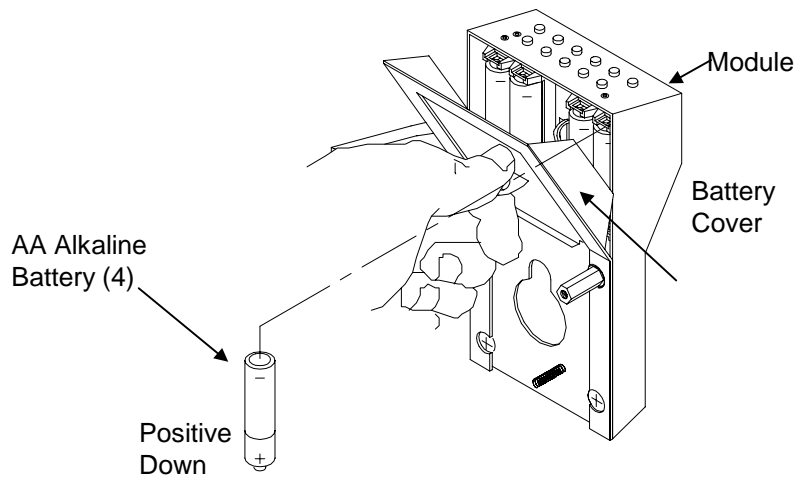

Figure 7 Battery Replacement
- Step 6 Using the tab on the Battery Cover, carefully pull the Battery Cover away from the Housing to expose the Batteries (Figure 7).
- Step 7 Remove and replace each of the old Batteries, **one at a time**, with the plus (+) end *down* (Figure 7)